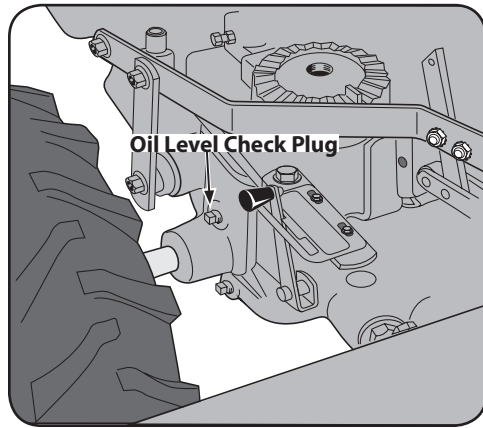

Figure 5-6
- Use a $\frac{3}{8}$ " wrench to remove the oil level check plug on the left side of the transmission housing. See Figure 5-6.
2. Remove the dipstick from the tine attachment. See Figure 5-6.